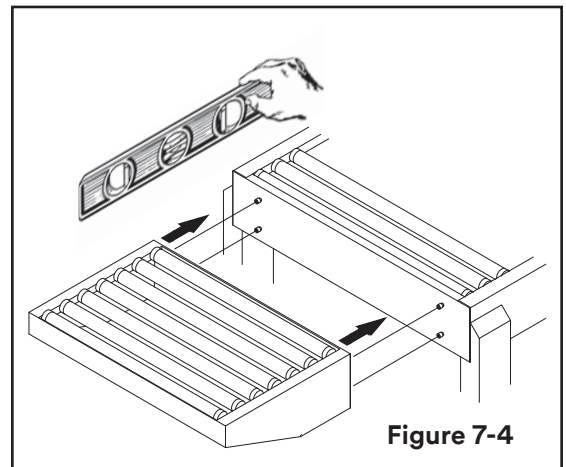

Figure 7-4
Cut the plastic which attaches the top head to the frame and remove the polystyrene blocks (Figure 7-4).
- 3) Be sure Conveyor is even with machine bed and also check to be sure Conveyor and machine are level (Figure 7-4).